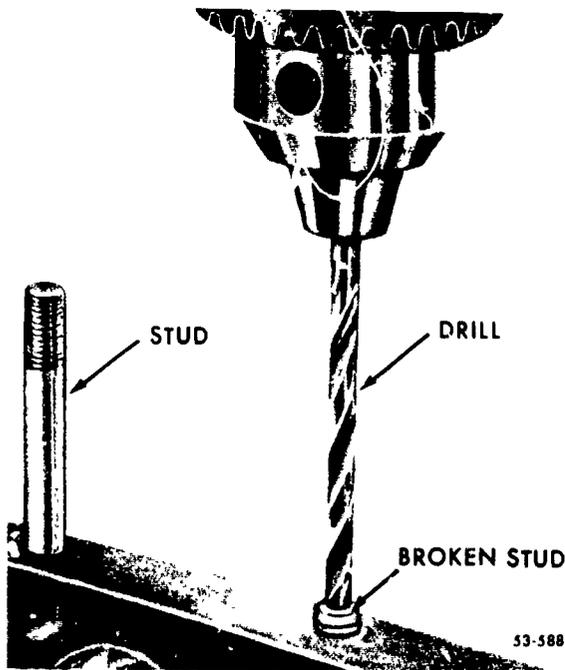

Figure 135. Drilling a broken stud.
**16-8. Drilling.** Broken studs may be removed by drilling out the portion left in the parent part, as shown in figure 135. There are several methods of drilling out broken studs. Probably the most accurate method of drilling is to use a drill jig. However, due to close working quarters, you will sometimes have to drill without a jig. Usually, you should try to spot punch the center of the broken